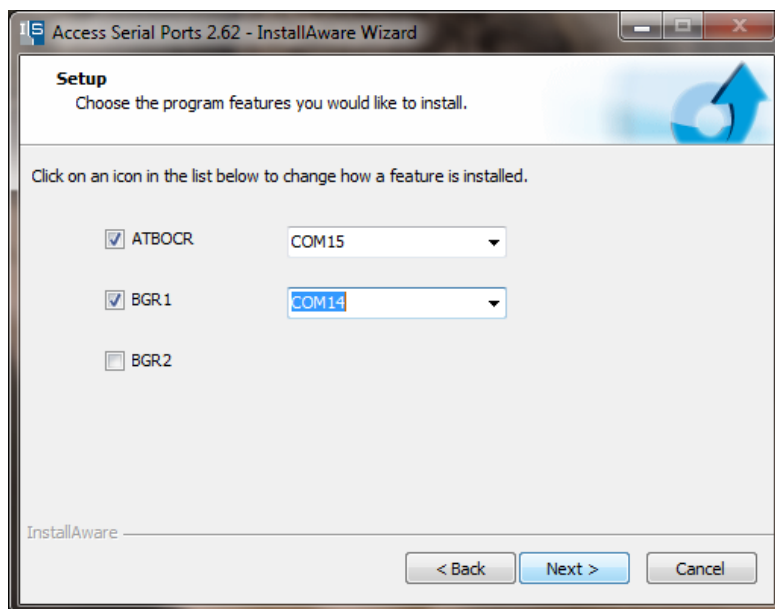
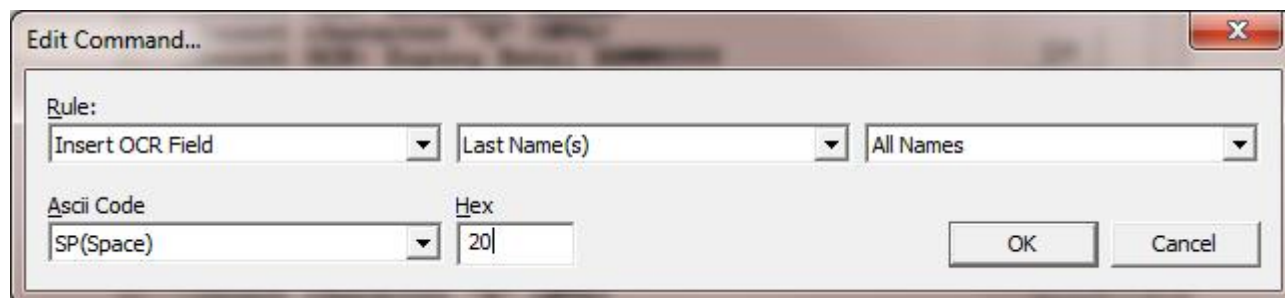

Figure 2
Figure 6
3. On the setup screen, shown in figure 2, select ATBOCR and select a COM port from the drop down list to create a virtual com port for our ATB/OCR/LSR range of devices. Do the same for the BGR1 option if you want to use one of our USB BGR devices. When installing ASPS on a SITA or ARINC computer, you won't be presented with this setup screen, default options have already been chosen.
The **New** button will bring up the window shown in Figure 2 allowing the creation of a new rule. Figure 6 shows an example to insert the last names from the OCR data with each name separated by a space. Entry controls are referred to numerically from left to right and top to bottom..